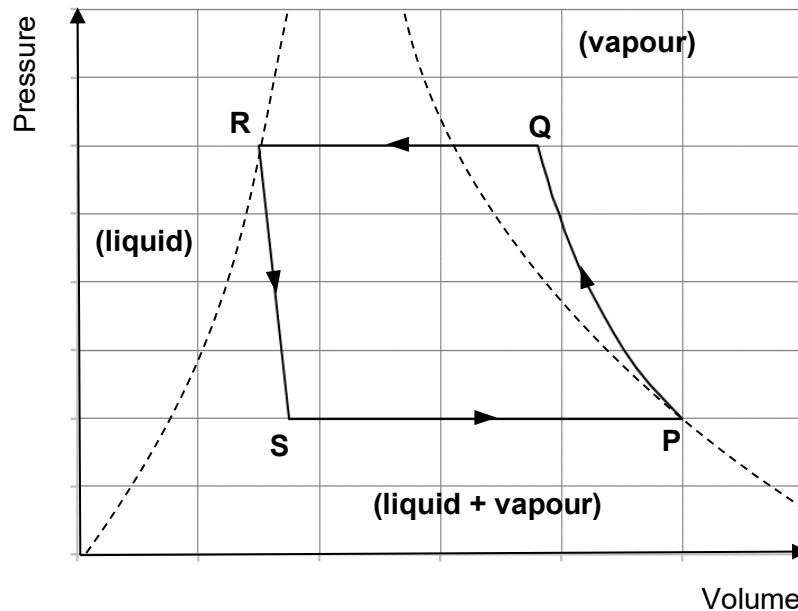

Fig. 8.1
Fig. 8.1 shows the variation of pressure against volume of the refrigerant as it cycles through four states P, Q, R and S. The four stages of the cyclic process are evaporation, condensation, compression and throttling (pressure releasing).
The dotted lines on Fig. 8.1 separate the pressure-volume regions into the respective phase of matter in which the refrigerant exists at that pressure-volume state. For example, in the region labelled **(liquid + vapour)**, the refrigerant exists as a liquid-vapour mixture.
- (a) Using the information provided in Fig. 8.1, match each stage in the cycle with its description in the chart below. P→Q has been matched.
(ii) By referring to Fig. 8.1, identify the state (P, Q, R or S) at which the refrigerant is a saturated vapour, and another at which it is a saturated liquid.